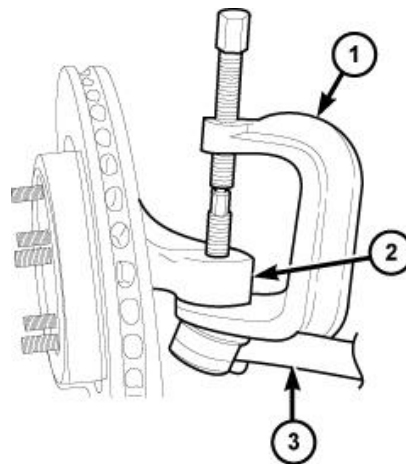

Figure 19 – Ball Joint Remover 8677
37. Separate the outer tie rod end (3) from the knuckle (2) with **Ball Joint Remover 8677** (1) (Figure 19).